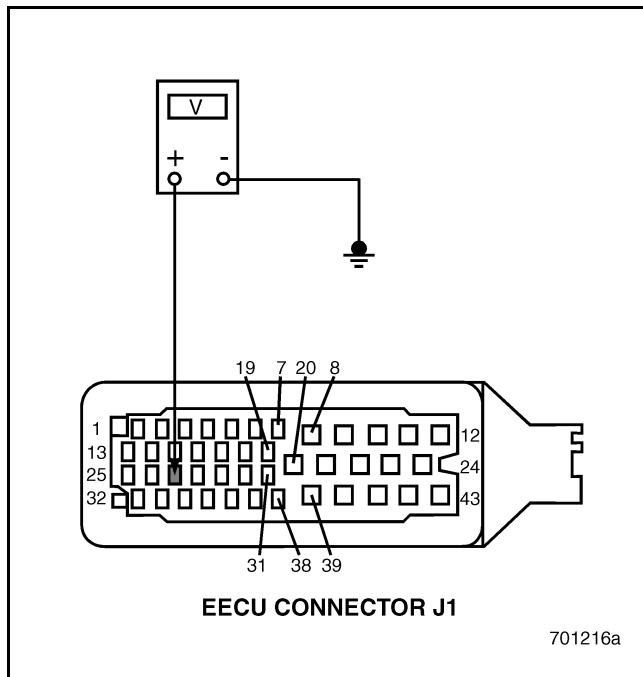

Figure 202
5. Measure the voltage from EECU harness connector J1 pin 27 to a good ground (see Figure 202).